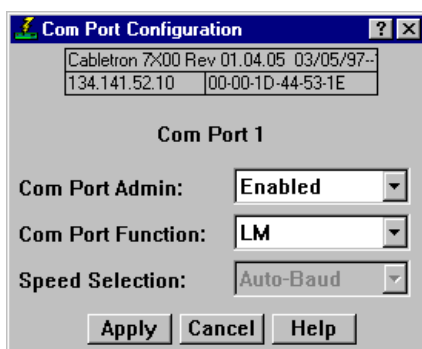

Figure 2-14. COM Port Configuration
You can use the COM Port Configuration window (Figure 2-14) to specify the functions each of the RS232 COM ports on the 7X00 Control Module face will perform. To do so:
2. Drag down to **COM Port Configuration**, then right to select **Port 1** or **Port 2**, and release. The COM Port Configuration window, Figure 2-14, will appear.